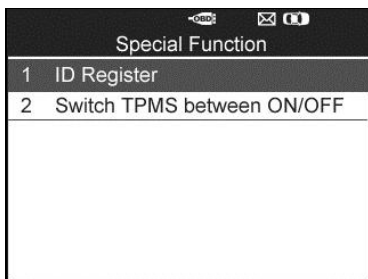

Figure 4.38
- 2) The tool will display a list of available special functions for the vehicle being tested (Figure 4.38).